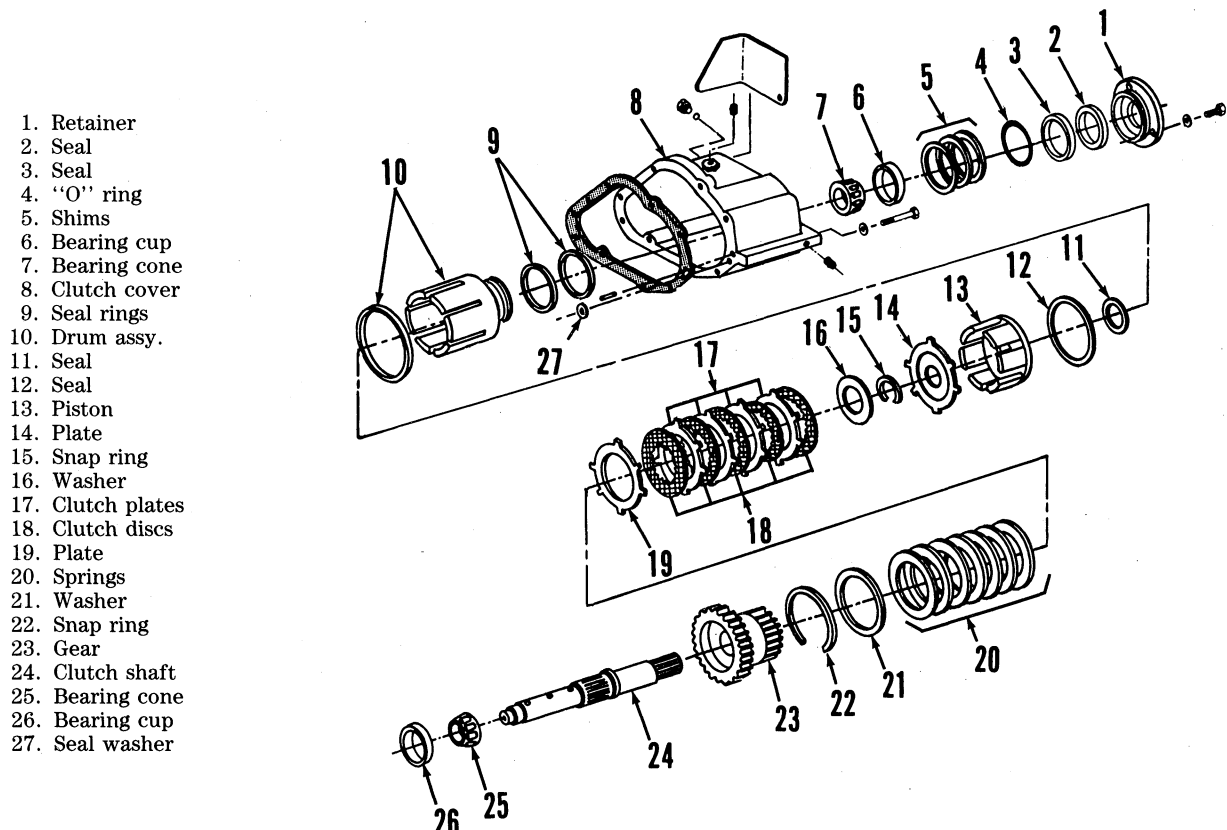

Fig. 14—Exploded view of mechanical front-wheel drive clutch assembly used on tractors equipped with Power Shift transmission.
8. R&R AND OVERHAUL. To remove clutch assembly, first drain oil from clutch housing. Remove drive shaft and yoke. Disconnect solenoid wires and clutch oil pressure line. Install a piece of pipe with 2-1/4 inch (60 mm) inside diameter and at least 3 inches (76 mm) long over end of clutch shaft and secure to shaft with a washer and cap screw. This will prevent clutch drum and clutch cover from separating during removal. Adequately support clutch assembly, then remove mounting cap screws and withdraw clutch assembly. Remove pipe from clutch shaft, then separate clutch cover (8—Fig. 14) from clutch assembly.
with slots in drum. Position drum onto clutch shaft. Install plate (14) so recessed side faces outward. Install snap ring (15) and thrust washer (16). Assemble clutch discs and plates alternately beginning with a disc (18). Use special JDG315 alignment tool or other suitable tool to align teeth of clutch discs. Make certain missing tooth on clutch discs is not aligned with rib on special tool. Install piston return plate (19—Fig. 14). Assemble spring washers (20) alternately beginning with outside diameter of first spring against return plate (19). Install washer (21) with stepped side facing up. Use a press and a compressing tool to compress spring washers until snap ring (22) can be installed. Make certain snap ring is fully seated in groove before releasing press. Be sure that clutch disc teeth are aligned, then install gear (23). Heat bearing cone (25) to 300° F (150° C) maximum, then install onto clutch shaft.